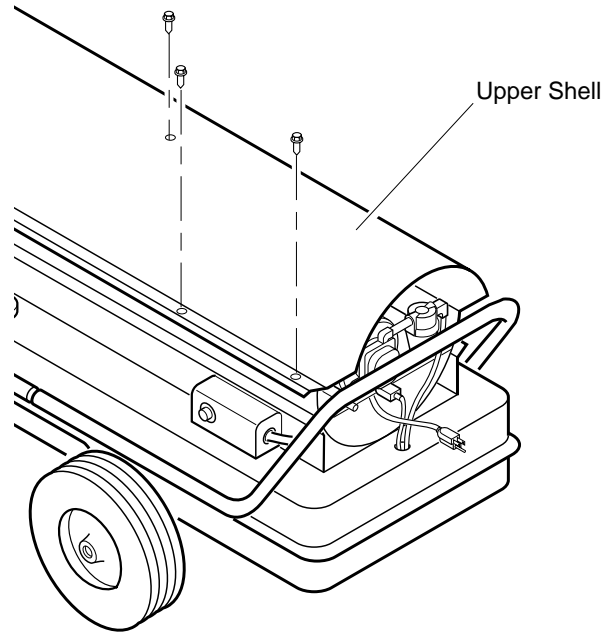

Figure 5 - Upper Shell Removal
1. Remove screws along each side and top of heater using 5/16" nut-driver. These screws attach upper and lower shells together (see Figure 5).